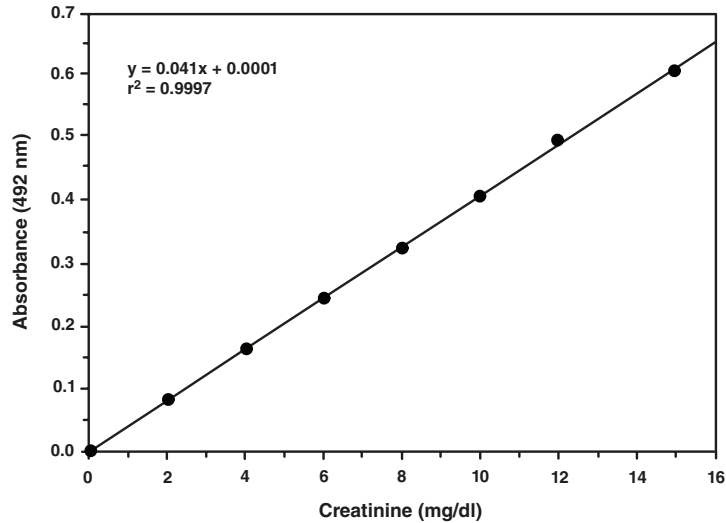

Figure 3. Creatinine standard curve
5. Plot the adjusted absorbance of the standards (from step 4 above) as a function of the final concentration of creatinine from Table 2 (on page 14). See Figure 3, on page 18, for a typical standard curve.